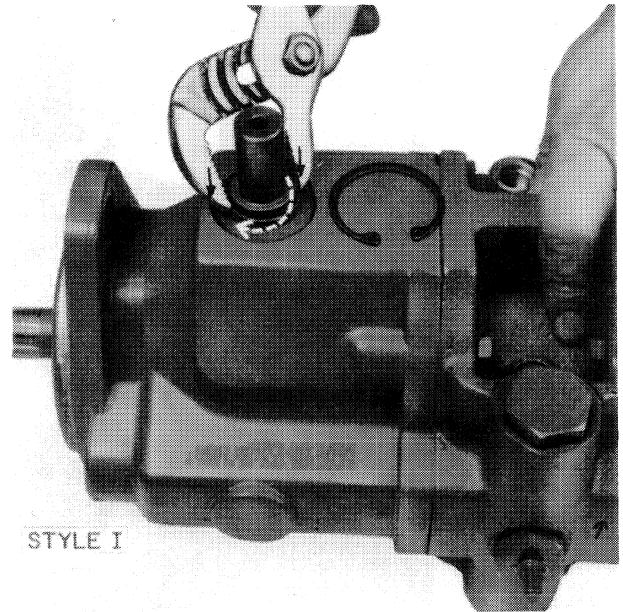

FIGURE 29
- (f) Use pliers to rotate the sleeve cover while pressing it down over the quad-ring, Figure 29.